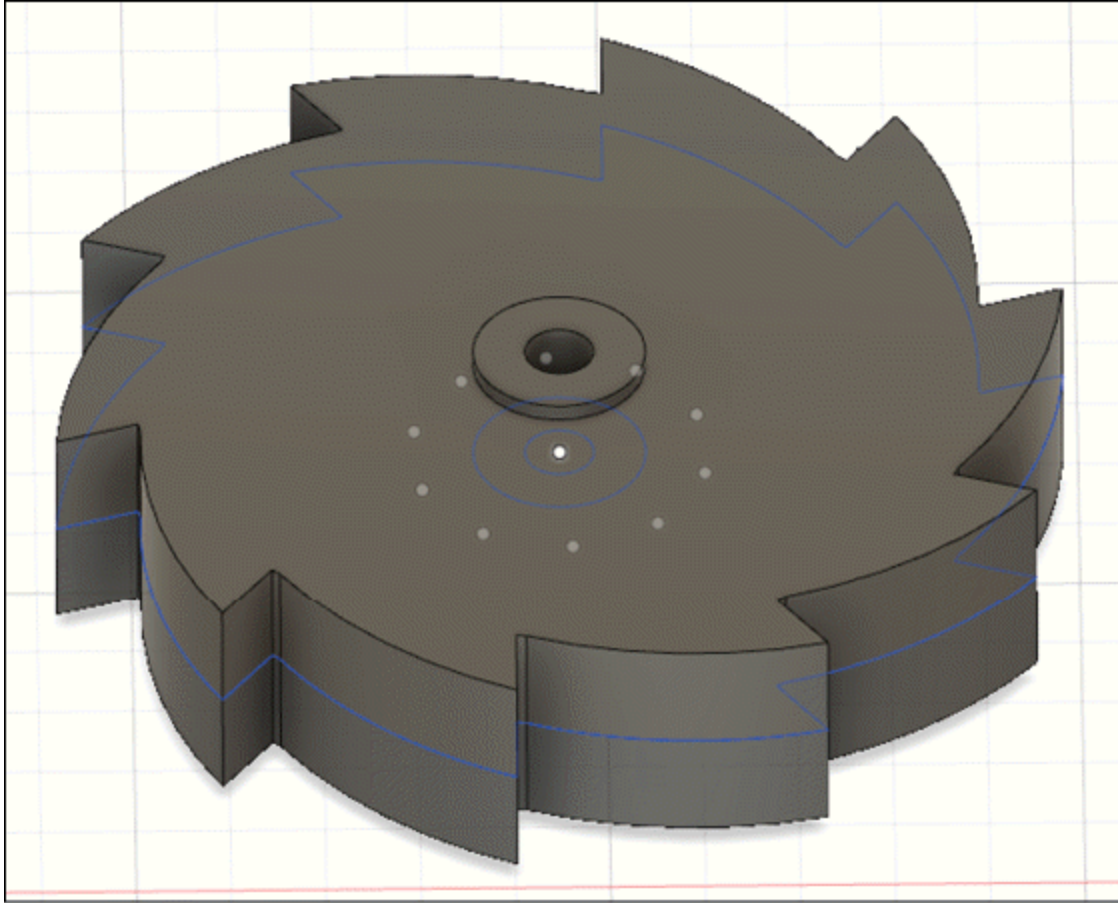

Figure-34. Final model of Practical 3
- Click **OK** button from **EXTRUDE** dialog box to complete the process of extrusion. The model will be displayed as shown in Figure-34.